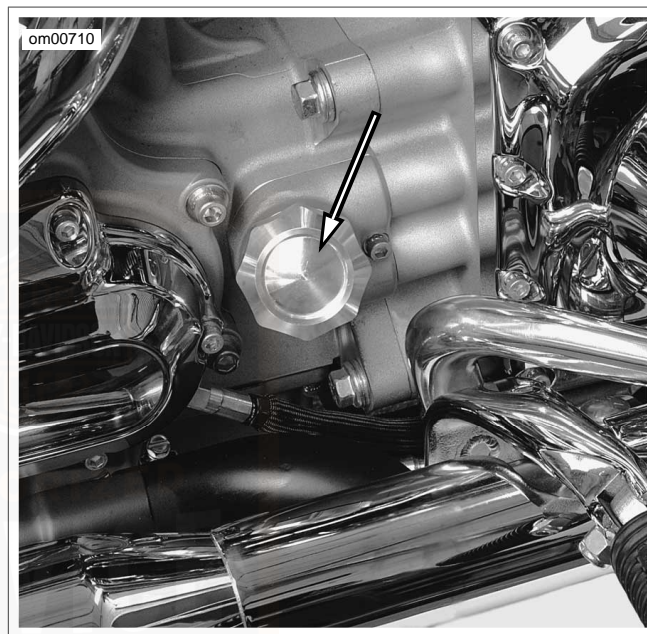

Figure 22. Dipstick Location: Dyna Models
See Figure 22. Dipstick is located on lower right side of engine.
1. See Figure 22. For preride inspection with the vehicle resting on the jiffy stand on level ground, unscrew and remove engine oil filler cap. Wipe off the dipstick and insert it back into the oil pan with the cap screwed completely into the fill spout.
2. See Figure 22. Unthread the cap to remove the oil filler plug/dipstick.